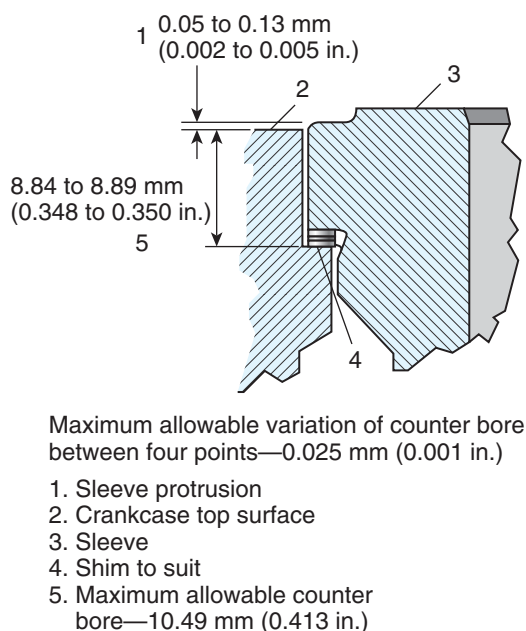

Figure 6-7 Installing counter bore shims on a Navistar DT 466E engine. (Courtesy of Navistar International)
3. Check the cylinder sleeve counter bore for the correct depth and circumference. Counter bore depth should typically not vary by more than 0.001 in. (0.025 mm). Counter bore depth can be subtracted from the sleeve flange dimension to calculate sleeve protrusion. Recut and shim the counter bore using the OEM recommended tools and specifications (**Figure 6-7**).